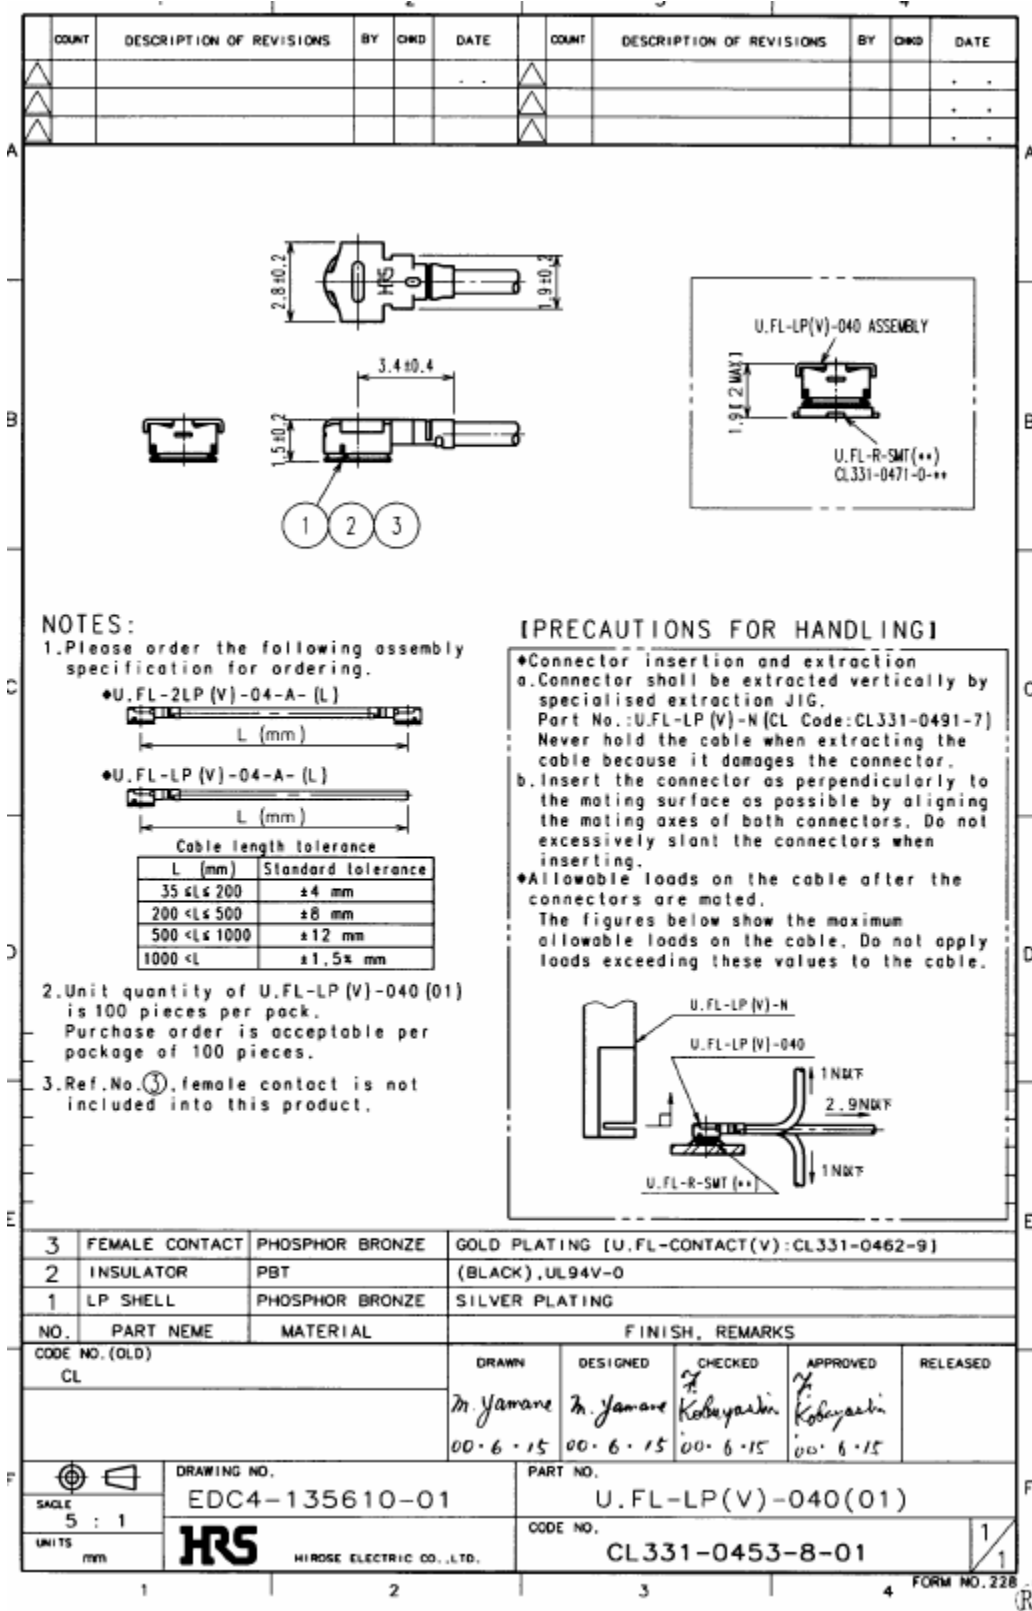

Figure 32: Specifications of U.FL-LP-(V)-040(01) plug
In addition to the connectors illustrated above, the U.FL-LP-(V)-040(01) version is offered as an extremely space saving solution. This plug is intended for use with extra fine cable (up to $\varnothing 0.81\text{mm}$) and minimizes the mating height to 2mm. See Figure 32 which shows the Hirose datasheet.